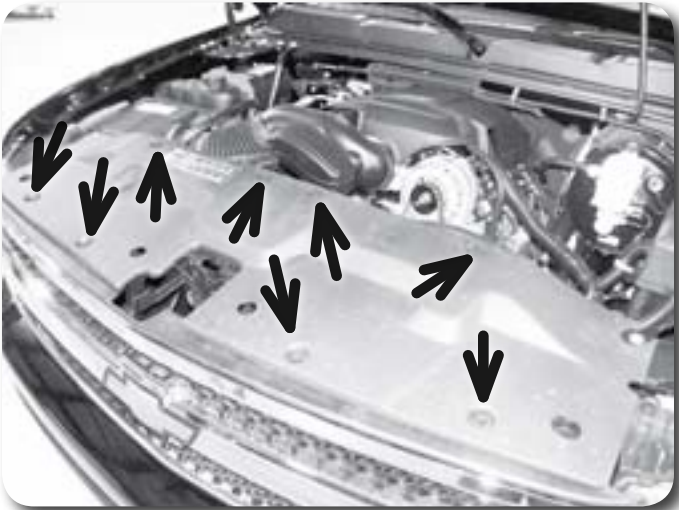

Figure 1
1. Remove the 8 plastic retaining clips holding the upper core support cover to the core support **Figure 1**. Pull up on the center of the clips to unlock and then pull them out of the cover. Save the cover and clips.